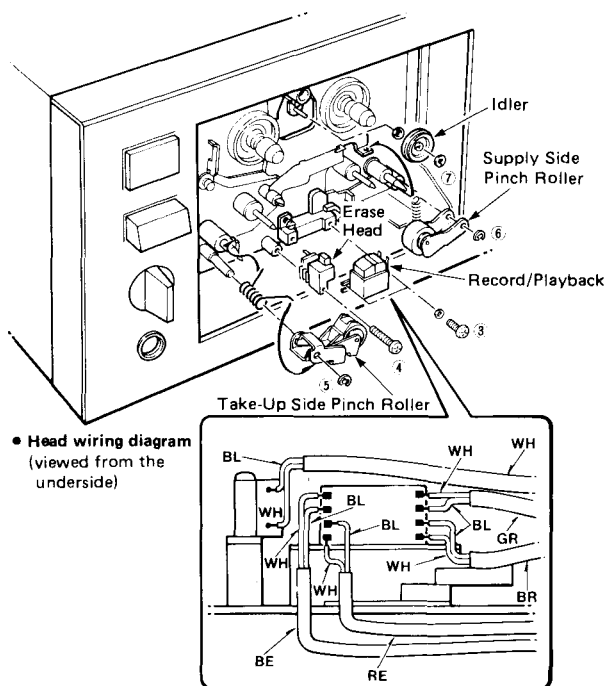

Fig. 2
- Remove 2 screws ③ in Fig. 2 and replace the record/playback head.
- Remove the screw ④ in Fig. 2 and replace the erase head.
- Remove the E ring ⑤ in Fig. 2 and replace the supply side pinch roller.
- Remove the E ring ⑥ in Fig. 2 and replace the take-up side pinch roller.
- Remove the washer ⑦ in Fig. 2 and replace the idler.